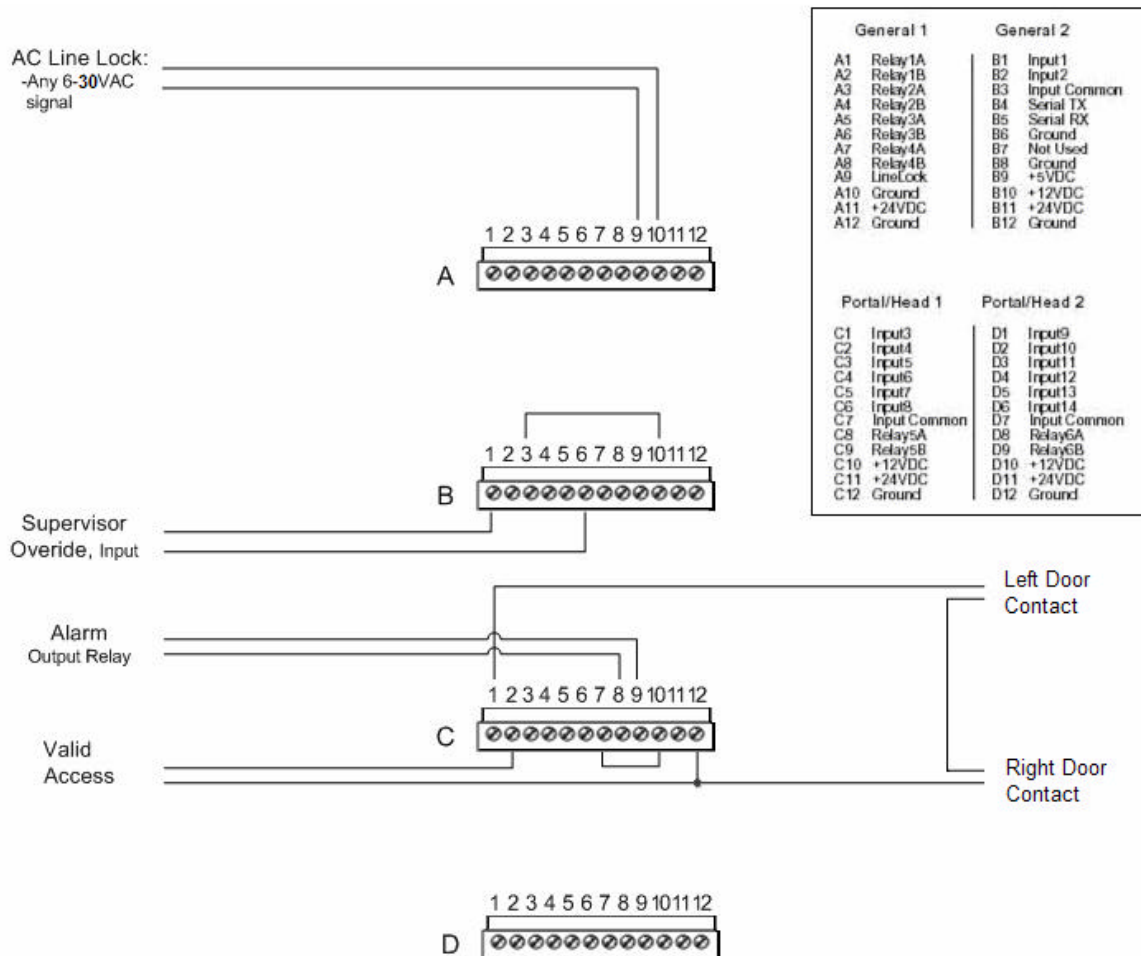

Figure 17 - Typical Configuration
7. Install and terminate an adequate number of wires to support the inputs and outputs that will be utilized on the system. A detailed example of connections is available in Figure 17.
1. The valid access grant signal will connect across the Input 3 terminal and either +12VDC or Ground (or applicable source voltage) dependant upon the installation type (see Figure 17).